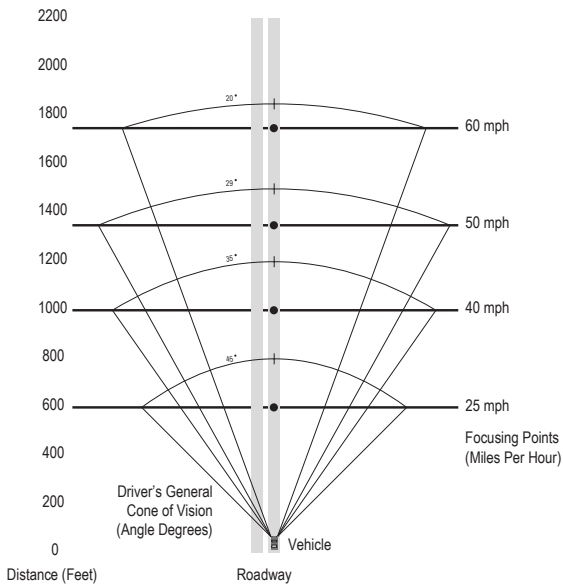

Figure 2.2.3
A pedestrian sign’s location will often dictate the range of acceptable visibility to the viewer in order for them to quickly and effectively interpret the information. If the viewer is given an appropriate distance to comprehend the messaging, hesitation will be reduced and informed decisions will be made regarding changing direction or continuing on the same pathway. In a fast paced (often congested) environment such as an airport, a conservative pedestrian viewing distance of approximately 25 feet to each inch of capital letter height should be used when specifying wayfinding signage (see Figure 2.2.3). However, all text on pedestrian wayfinding signage must always follow all sizing and legibility requirements as established by the latest editions of the ADA and Texas ADA.
There are several factors that affect the legibility of vehicular messages, including (but not limited to) the sign’s height above finished grade, lateral spacing from the roadway, number of messages, overall size of the sign (including support structure) and the speed at which a vehicle is traveling. As a result, when designing new or updated vehicular wayfinding signage, *a set of general design guidelines should be used when determining a conceptual reference point for adequate message size (see Figure 2.2.3).
**NOTE: The information shown in Figure 2.2.3 is based on typical and generally accepted wayfinding industry standard practices (equations & table provided by the United States Sign Council, USSC), and is only a basic conceptual design reference. These are general “rule-of-thumb” guidelines and should only be used as an initial starting point when determining vehicular wayfinding signage legibility. This information should not be construed as absolute or final. All vehicular wayfinding signage legibility must meet all requirements as established within MUTCD and TXDOT signage design standards.*